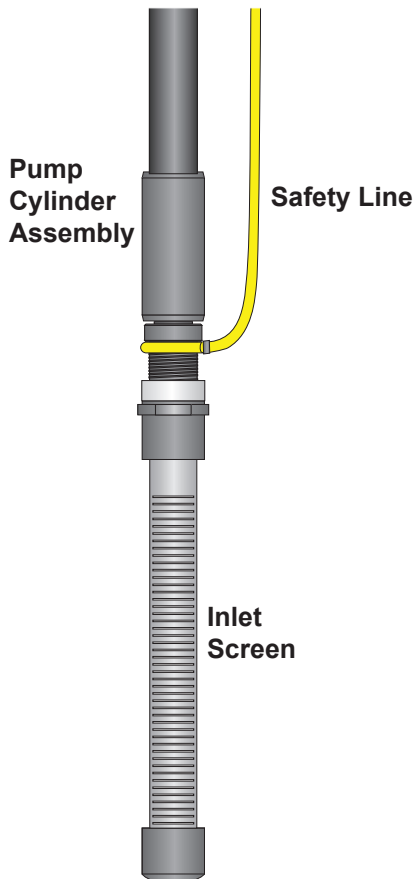

Figure 8
4. Insert bottom of pump cylinder assembly through the loop on the safety line (**Figure 8**). On one end of the safety line is a loop that fits 2" pipe and on the other end is a loop that fits 1-1/4" pipe. Use the appropriate end, depending on the diameter of the pump being used.
5. Screw inlet screen onto bottom of pump cylinder assembly (**Figure 8**), using Teflon tape. Tighten firmly with pipe wrenches.